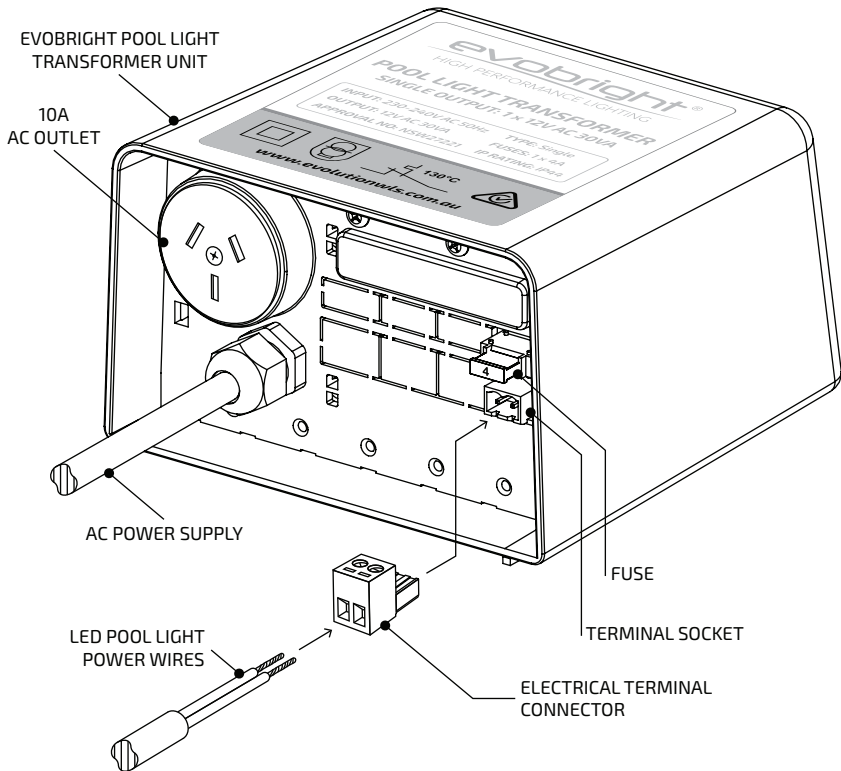
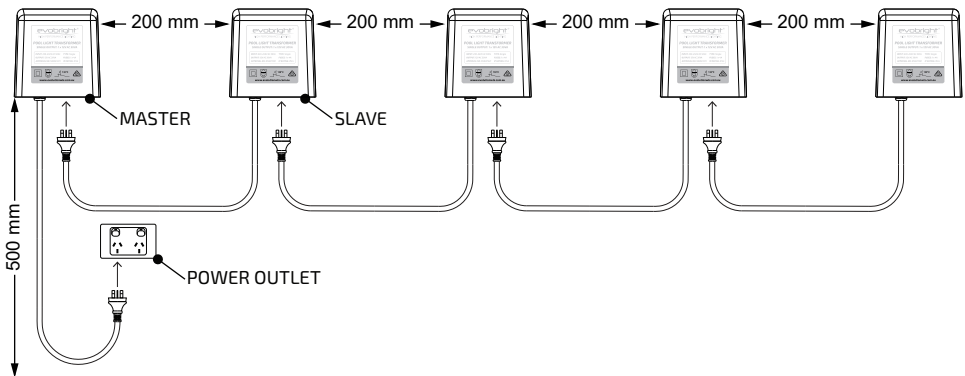

Fig. 2
Fig. 4
- 4.2 Mount the Transformer at a minimum of 500mm above ground level. Multiple units should be mounted at a minimum of 200mm from each other (Fig. 4) and a minimum distance of 500mm from any other electrical equipment or device.
- 4.3 Connect the LED Pool Light Power Wires to the Electrical Terminal Connector and tighten the screws sufficiently to hold the wires securely (Fig. 2).
- 5.1 Plug the Transformer AC Power Supply (Fig. 2) into a 10A 230–240VAC General Purpose Power Outlet (Fig. 4) and switch the power on. The pool lights will turn on when the power is on.
- 5.2 To connect additional Transformers in series (a maximum of 5), plug the slave unit/s into the 10A AC Outlet on the underside of the Master Transformer. The primary Slave can provide power to a secondary Slave up to a maximum of 5 units (Fig. 4).